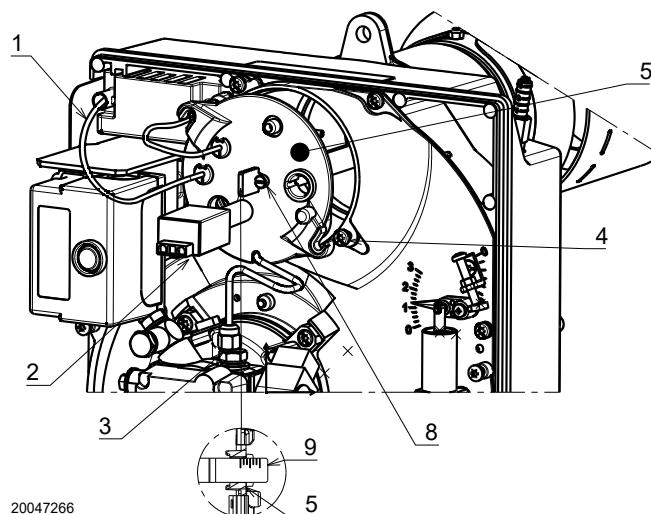

Fig. 20
- Unthread the wires 1) (Fig. 20) from the control box, the flame detector 2), and loosen the nut 3) from the pump.